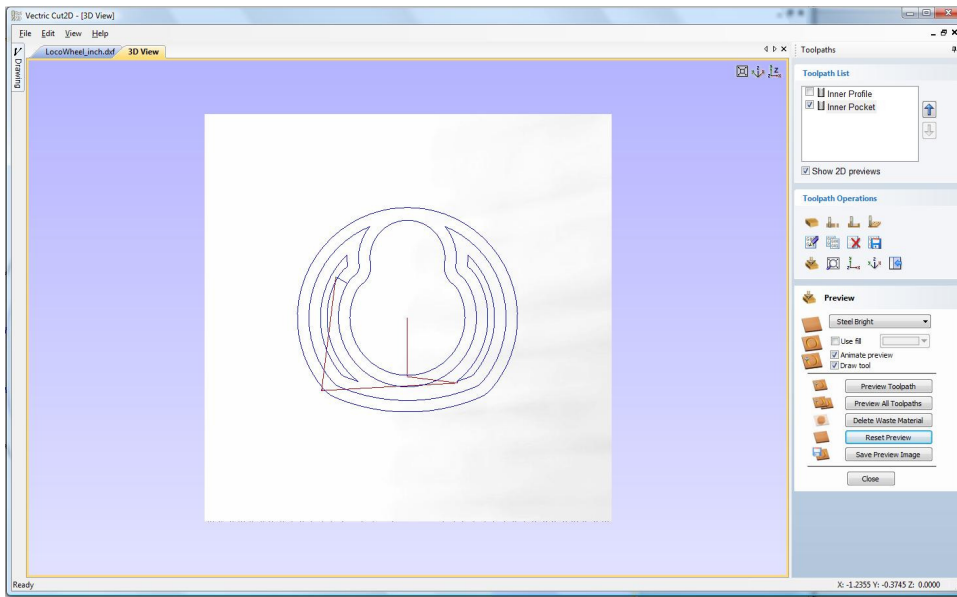

Figure 17. 3D View showing Toolpaths & Material
8. Click the **Calculate** button and the resulting toolpath will automatically be drawn in the **3D view** and the **Preview job** form opened, as shown below in Figure 17.